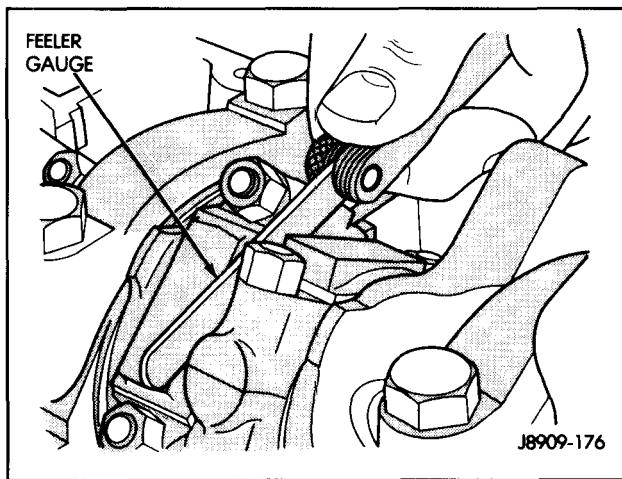

Figure 7 - 14
2. Insert a snug fitting feeler gauge between the connecting rods (Figure 7- 14).